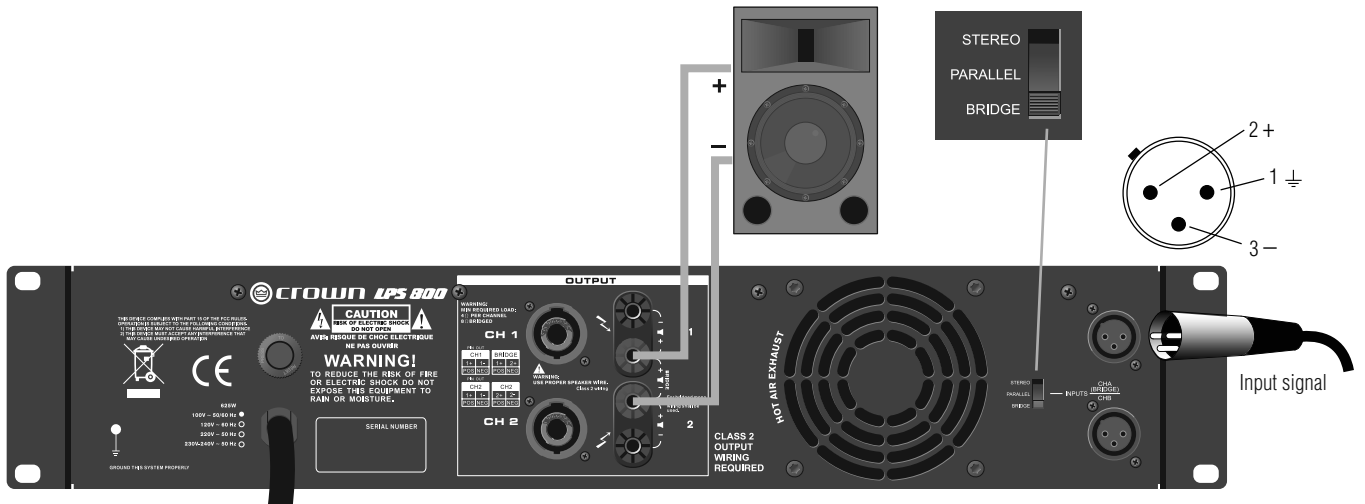

Figure 6. Bridge-Mono Wiring With Binding Post Connectors
1. See Figure 6. On the back panel, set the Output Mode Switch to BRIDGE.